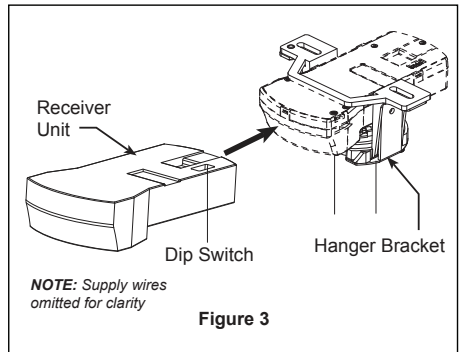

Figure 3
2. Slide the receiver into the hanger bracket before wiring as shown in figure 3.